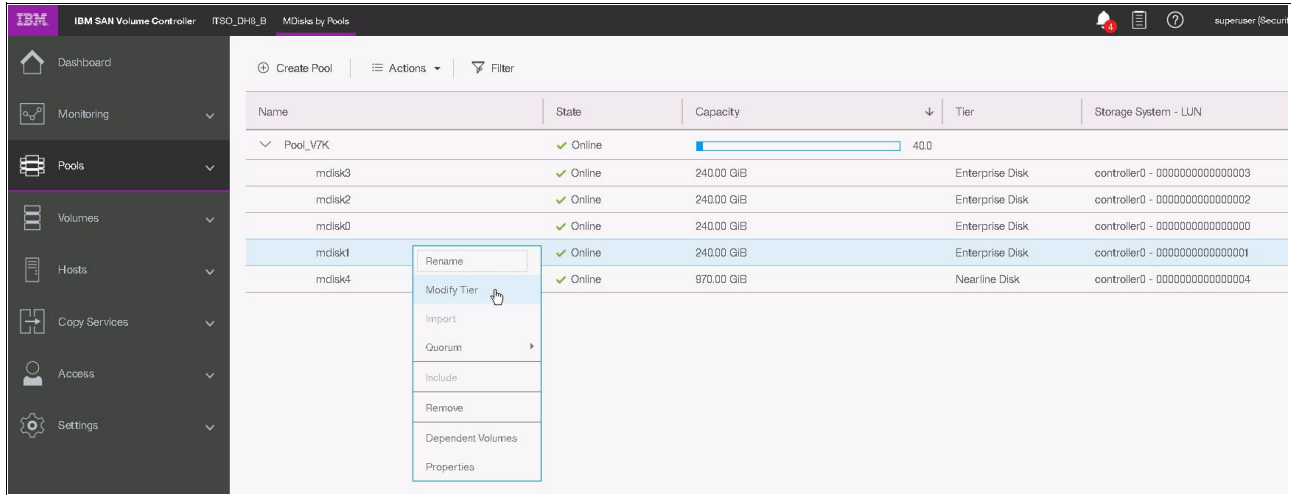

Figure 7-4 Change the MDisk tier
2. Right-click the wanted MDisk and select **Modify Tier** (Figure 7-4 on page 279).